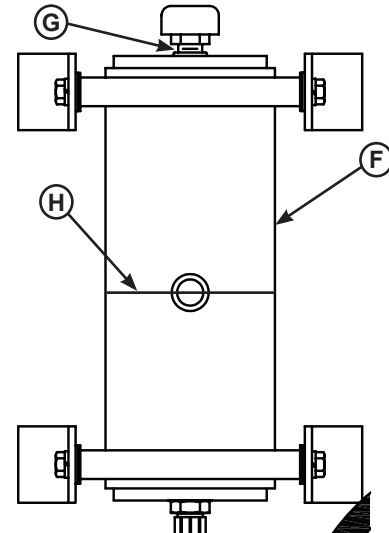

Figure 28
- Check reservoir fluid level (see Figure 28 for SC models, or page 28 for remote-mount powerpacks):